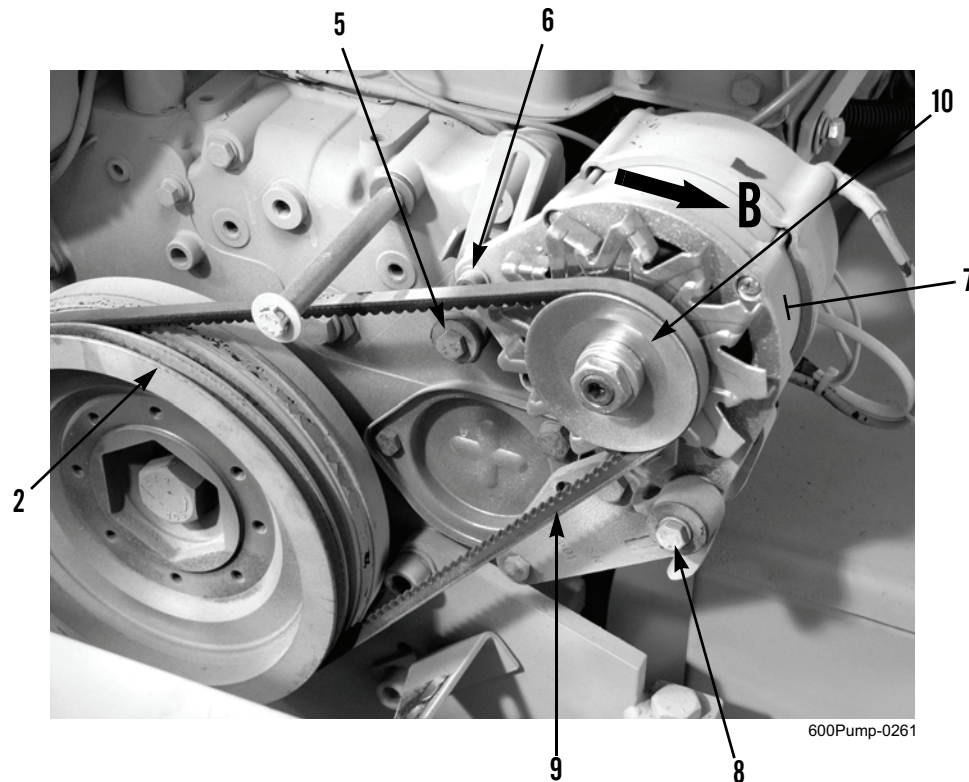

Figure 3. Alternator V-Belt Installation.
4. Position new alternator V-belt (Figure 3, Item 9) between alternator pulley (Figure 3, Item 10) and crankshaft pulley (Figure 3, Item 2). Press outward on alternator (Figure 3, Item 7) in direction of arrow (B) until correct V-belt deflection is obtained: 3 to 7 mm (0.12 to 0.28 in.) as determined by gauge unit.
5. Tighten bolts (Figure 3, Items 5, 6, and 8).